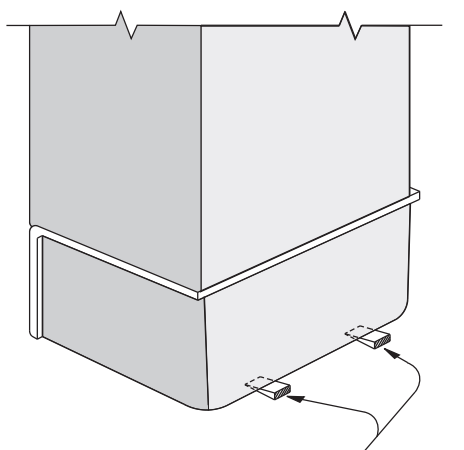

Figure 1 Wood Support Shims
3. Placement of the two wood shims is MANDATORY to provide bottom structural support of the base unit. See Figure 1